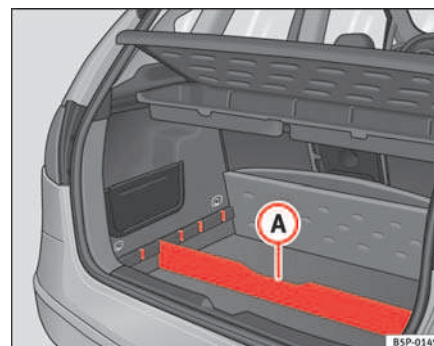

Fig. 104 Luggage compartment divider
- Fit the separator **A** ⇒ page 135, fig. 104, into the side grooves depending on the size of the objects to be transported. The onboard tool kit and the spare wheel are located underneath the luggage compartment.